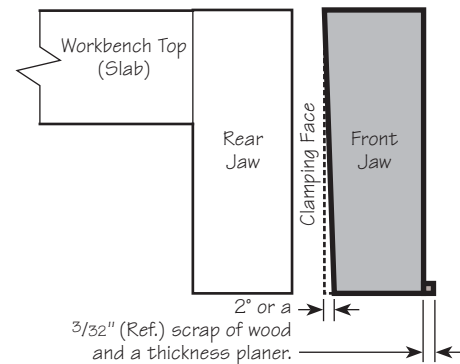

Figure 10: Front jaw taper.
- Remove the vise front assembly, then the front jaw from the vise front assembly. **Do not remove the carriage or rear jaw from the bench.** If required, trim the jaws to length and drill any desired $3/4''$ dia. bench dog holes. Plane a 2° taper on the **clamping** face of the **front** jaw, so that it is thinner at the bottom than at the top, as shown in **Figure 10**. This will ensure that pieces clamped in the vise will always be gripped at the top of the jaws. This can be achieved by using a hand plane or a belt sander. Or, by temporarily adding a scrap of wood to the opposite side (using glue or double-sided tape), the jaw can be passed through a thickness planer.